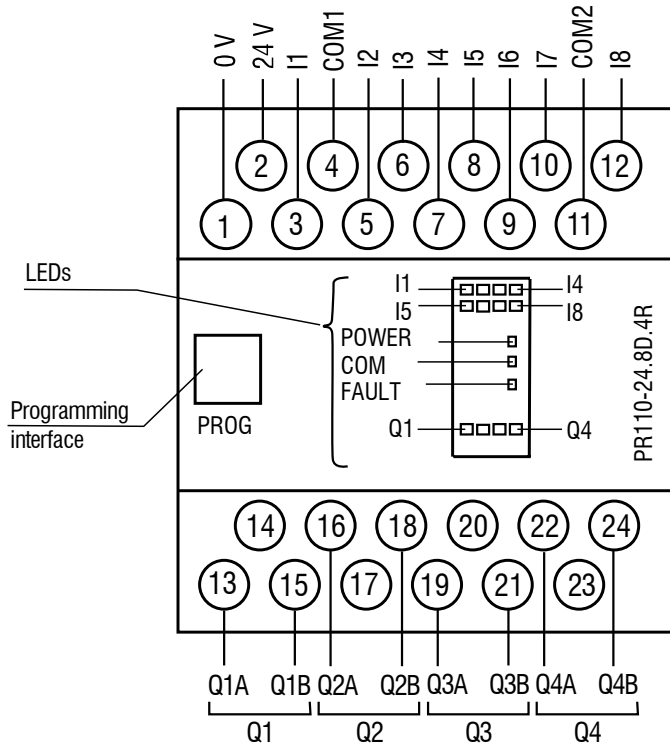

Fig. 5.1 PR110-24.8D.4R terminal blocks
- Terminal blocks are shown in Fig. 5.1, 5.2, and pin assignments are given in Tables 5.1, 5.2.